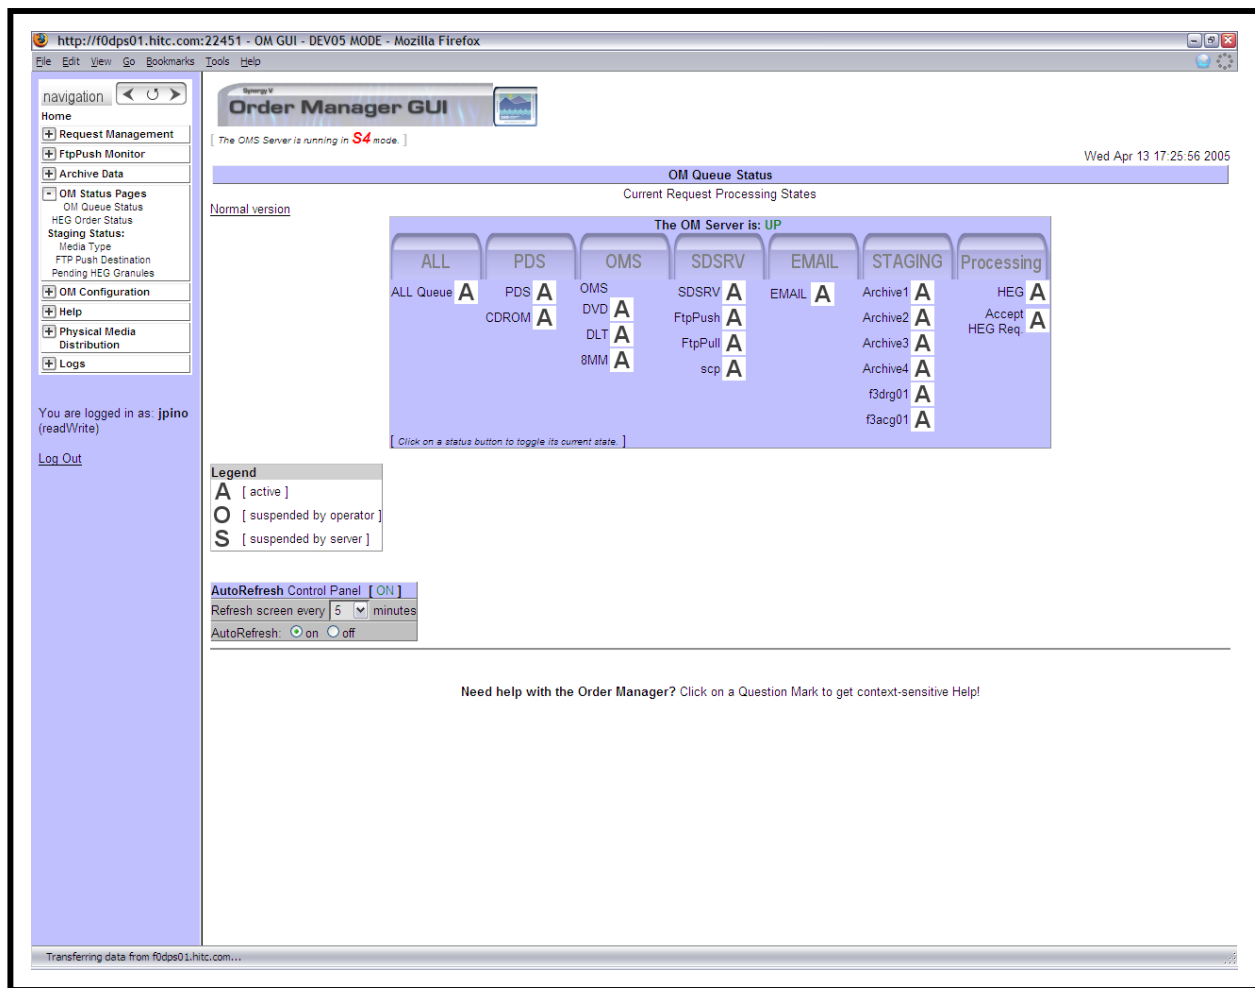

Figure 56. OM Queue Status Page - Text-Only Version
- Clicking on the **Text-only version** link brings up a text-only version of the page (Figure 56) intended for visually impaired operators.